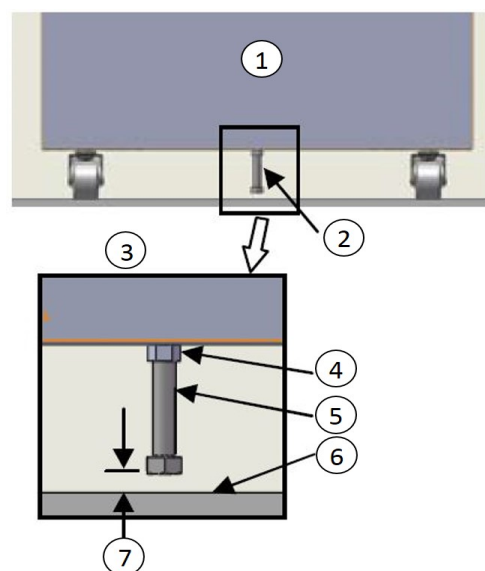

Figure 2. Bolt Location
- Unscrew 1/2" bolt until there is 1/2" clearance between floor and head of bolt as shown in the **"Figure 2. Bolt Location"**.